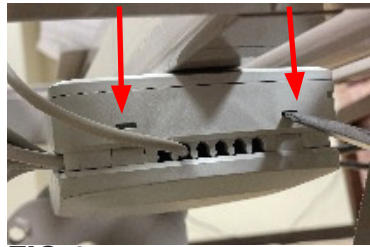

FIG 1
2. Open control box cover using a flat head screwdriver (Fig 1).